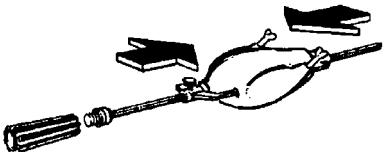

fig. 9
**Using the grill set (see fig. 9)**